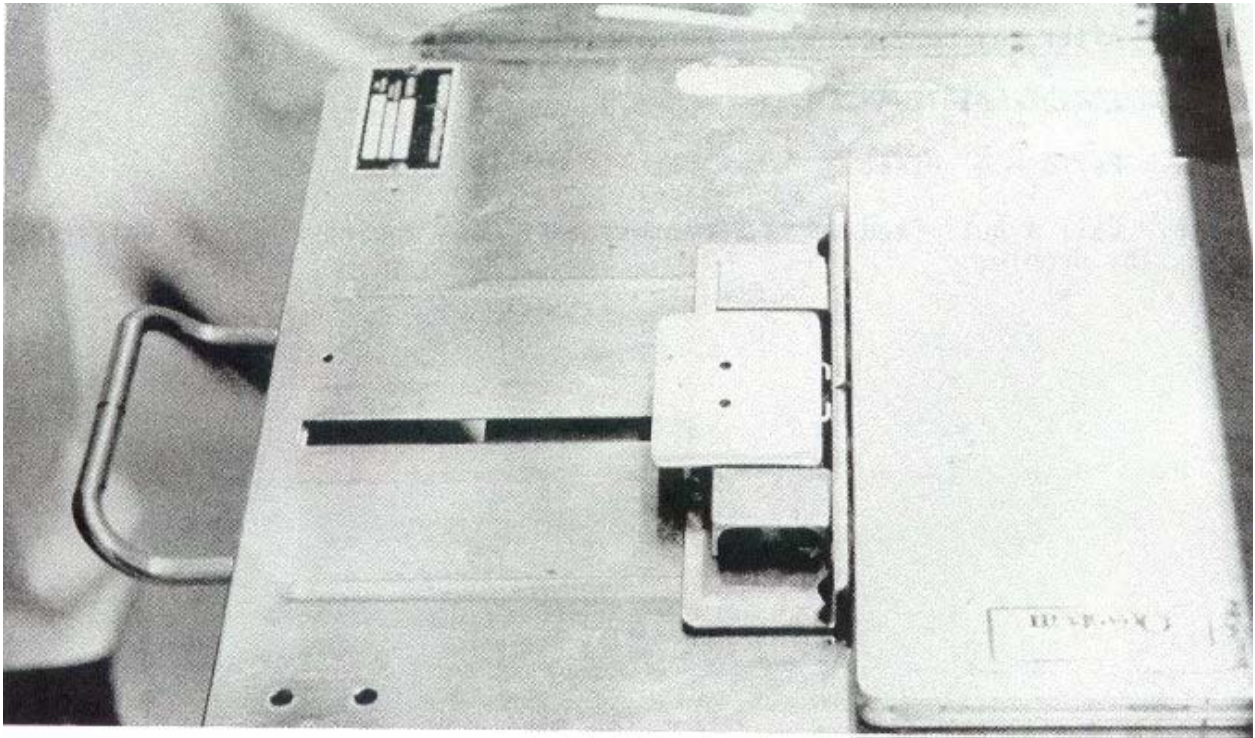

Figure 6-16. Inserting 8- x 10-inch cassette in Bucky tray.
- f. Insert the 8- x 10-inch cassette into the Bucky tray (see figure 6-16).